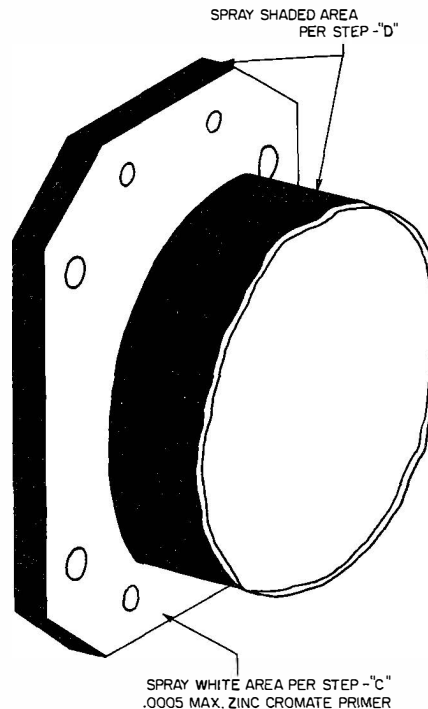

Figure 6-35. Cylinder Flange Area
c. Spray a very light coat of zinc chromate primer (.0005 maximum thickness) on the cylinder flange. See figure 6-35. If the correct amount of paint has been applied the color of the paint will be green with a yellowish tint and the metal will show through. If the paint is too thick the color will be zinc chromate yellow.
d. Mask off the flange area as shown in figure 6-35. Proceed to paint the cylinder with a Pthalate resin type enamel (AMS3125C or equivalent MIL-E-7729) properly thinned with Toluene or equivalent (AMS3180 or equivalent Federal Spec. TT-T-548).